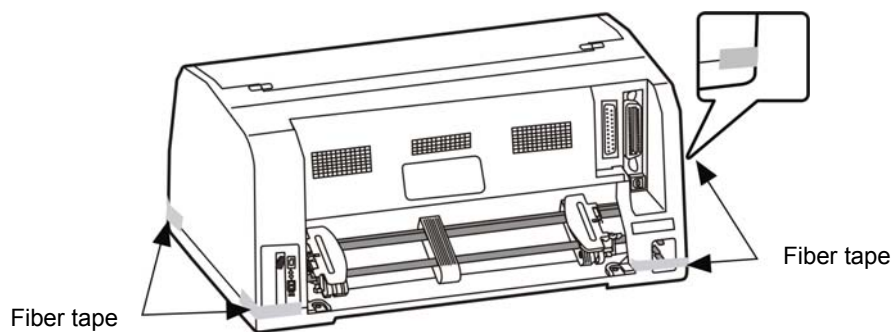

Figure 2-2 Tearing off the fiber tape
1. Open the packing box, take out the printer, tear off the fiber tape around the printer cover as shown in Figure 2-2.